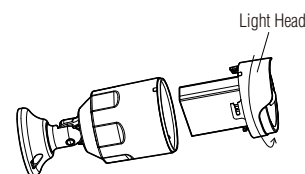

Figure 2
1. Turn counter-clockwise until the light head is separated from the light. (Figure 2)